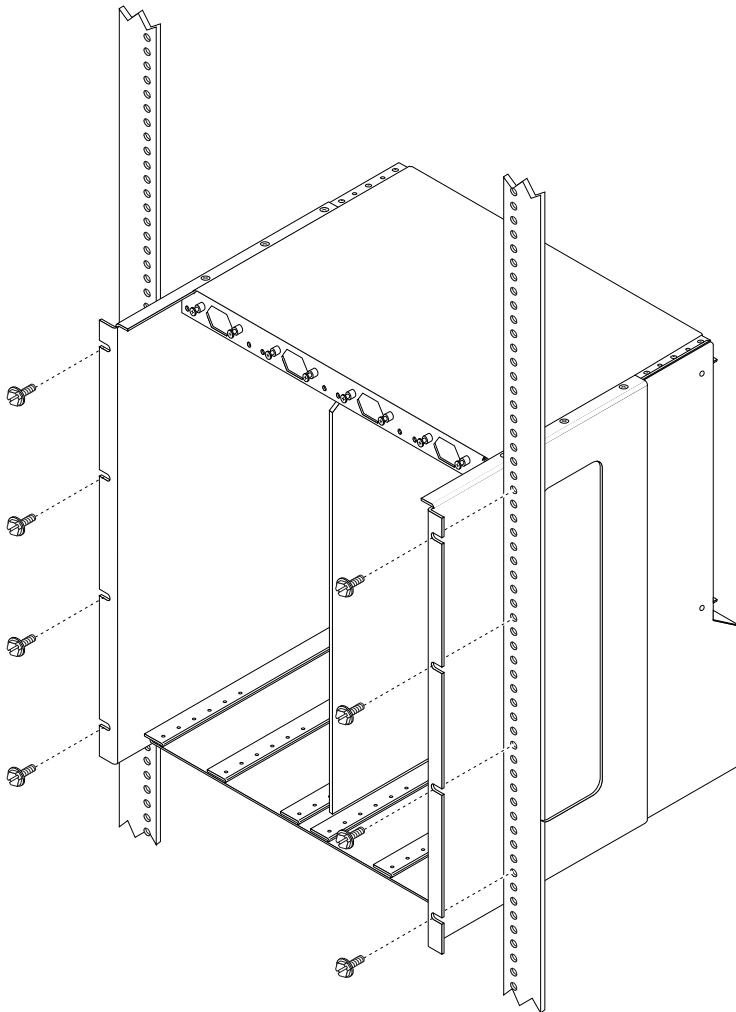

FIGURE 3-9 Mounting the Netra CT Chassis in a Rack
1. Raise the Netra CT chassis to the appropriate height in the rack, then align the mounting holes on the sides of the chassis with the mounting holes in the rack rails (FIGURE 3-9).